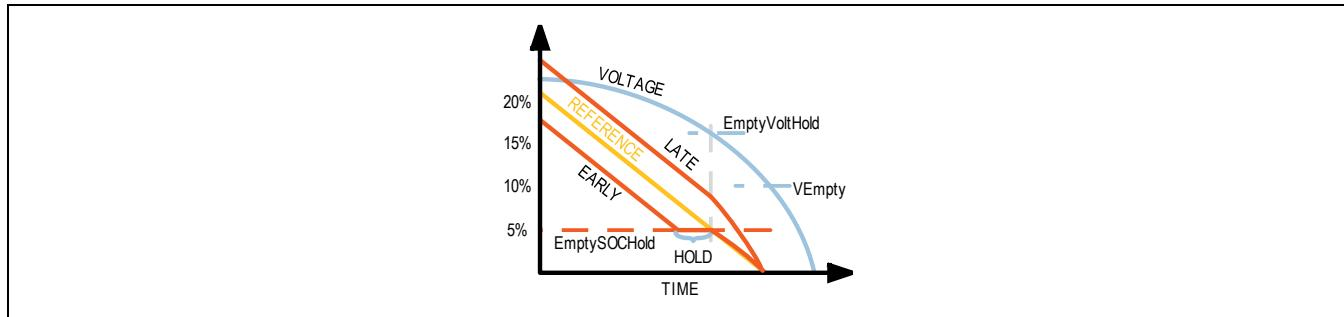

Figure 18. SOC Hold Conceptual Drawing
- **Empty Hold.** This feature limits RepSOC to not fall below x% (1% default) until the empty voltage is crossed. This can be useful with operating systems which force system shutdown at a particular battery percentage. A Windows computer, for example, may force the system shutdown or hibernate when the fuel gauge crosses 5%. So setting Empty Hold to 6% can guarantee deeper discharge to a specified voltage level, and thereby often extend runtime. Set desired empty SOC in SOCHold.EmptySOCHold. The MAX77972 holds the SOC until battery voltage drop below Vempty + SOCHold.EmptyVoltHold, as shown in Figure 18.